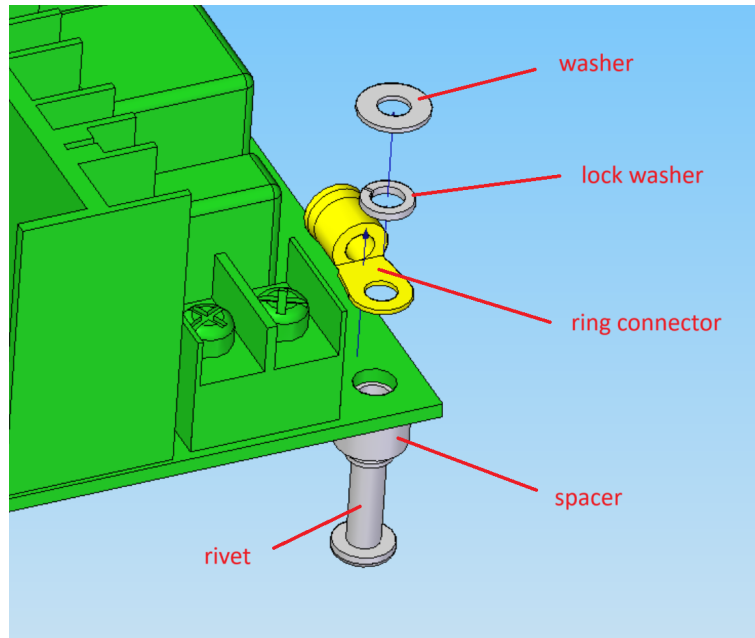

Figure 3.23: Connect the power supply ground to the base and power supply cable ground
7. Install the **power supply** in the **base**, ensuring that the ground connection is correctly made (see Figure 3.23, page 108).